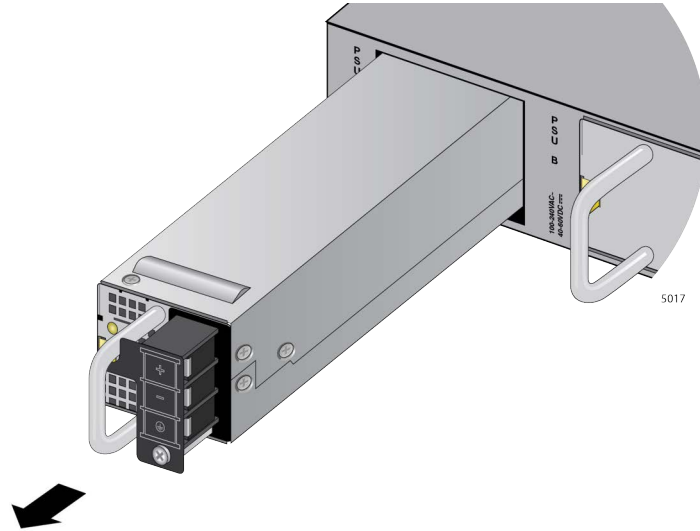

Figure 155. Front Panel of the PWR600 DC Power Supply
7. Carefully slide the power supply from the switch. Refer to Figure 155 on page 258.